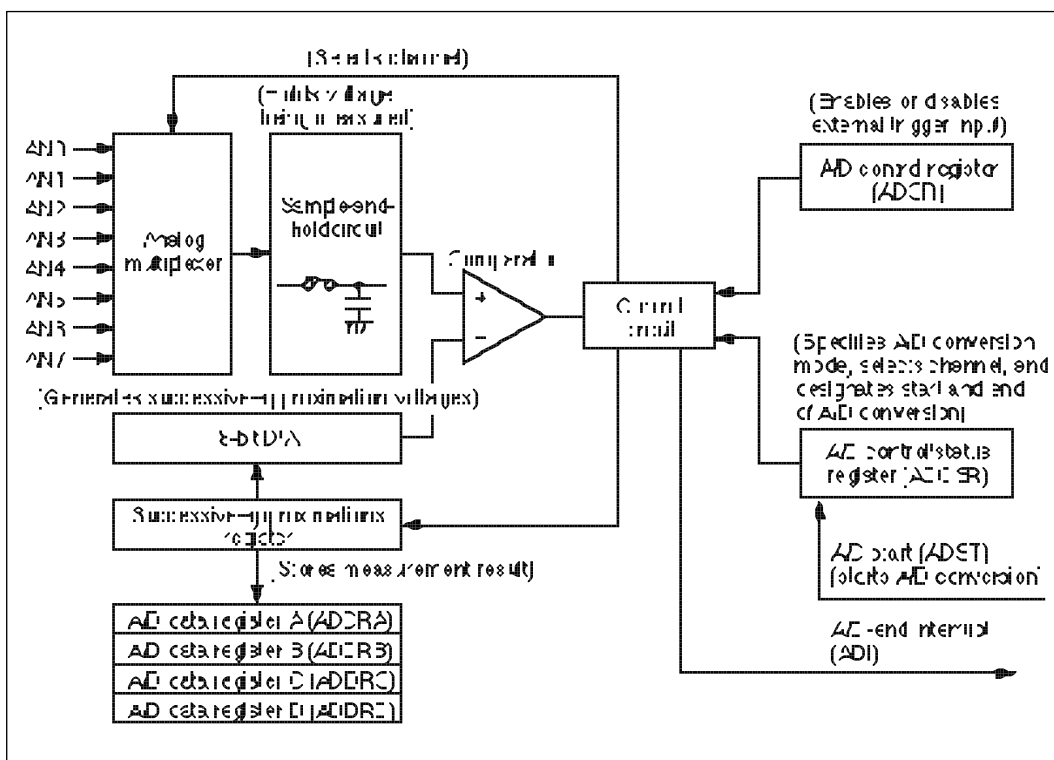

Figure 2 A/D Converter Block Diagram
1. Figure 2 shows a block diagram of the A/D converter used by this sample task. The H8/330 has a successive-approximations A/D converter on-chip. The A/D converter has the following functions: